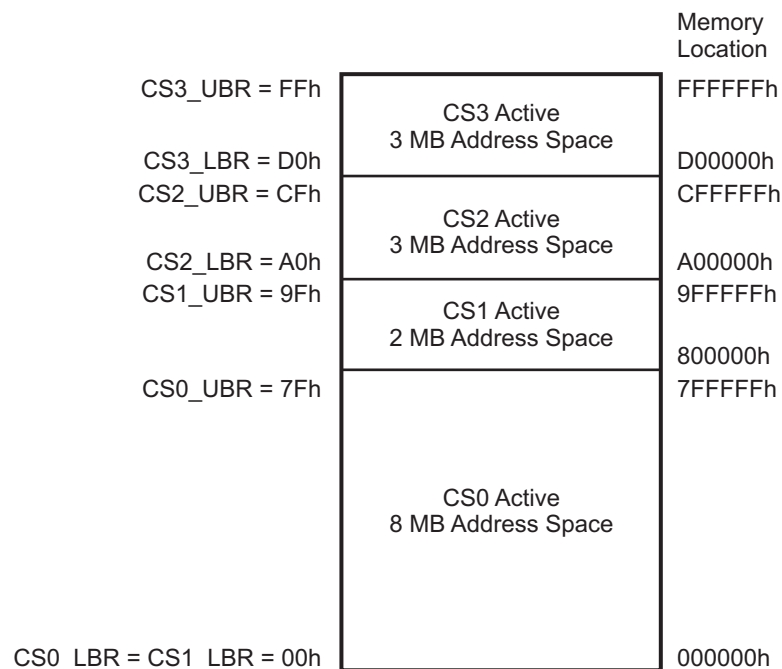

Figure 6.Example: Memory Chip Select
The use of Memory Chip Selects is demonstrated in Figure 6. The associated control register values indicated in Register Values for Memory Chip Select Example in Figure 6. In this example, all 4 Chip Selects are enabled and configured for memory addresses. Also, CS1 overlaps with CS0. Because CS0 is prioritized higher than CS1, CS1 is not active for much of its defined address space.
**Table 13. Register Values for Memory Chip Select Example in Figure 6**